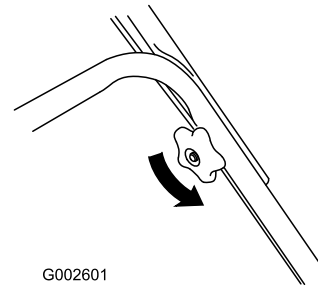

Figure 51
6. Loosen the handle knobs until you can move the upper handle freely (Figure 51).